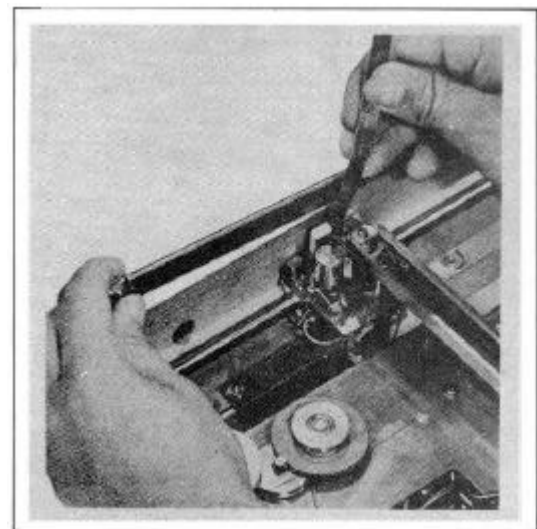

FIGURE 5-8. X-AXIS WIPER PROTECTION
- d. Move slidewire assembly upwards, being careful not to damage wiper. See Figure 5-8.